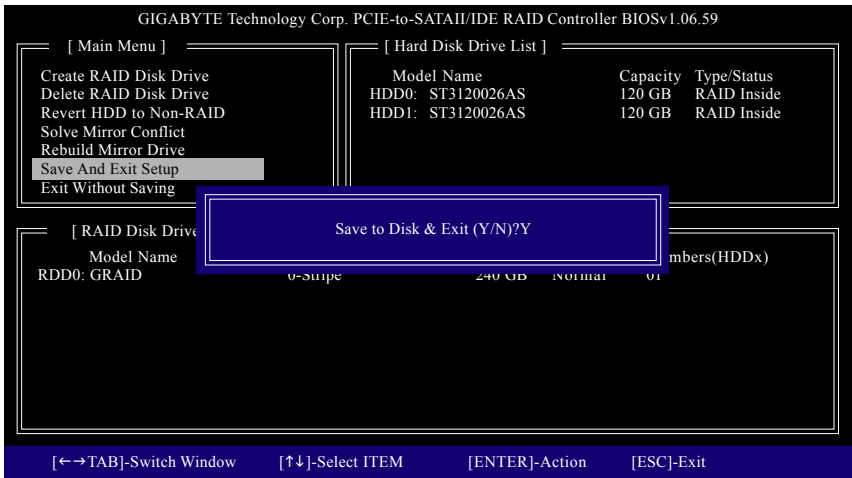

Figure 11
7. Save and Exit Setup: After configuring the RAID array, select the **Save And Exit Setup** item in the main screen to save your settings before exiting the RAID BIOS utility, then press <Y> (Figure 11).